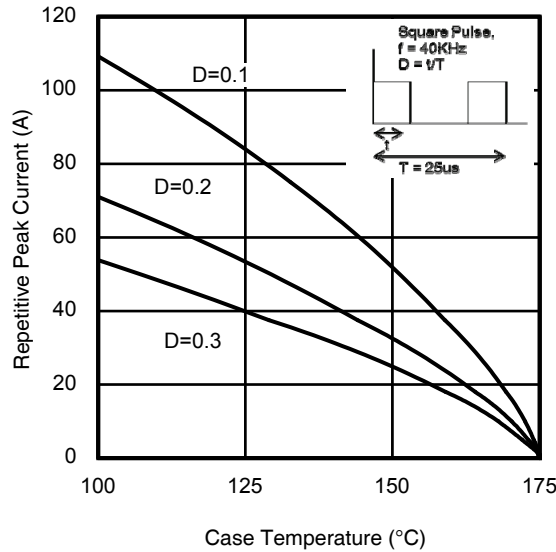

Fig. 26 - Typical Gate Charge vs. V_{GE}
- ① V_{CC} = 80% (V_{CES}), V_{GE} = 20V, L = 400μH, R_G = 10Ω.
- ② R_θ is measured at T_J of approximately 90°C.
- ③ Refer to AN-1086 for guidelines for measuring V_{(BR)CES} safely.
- ④ Pulse width limited by max. junction temperature.
- ⑤ Values influenced by parasitic L and C in measurement.
- ⑥ f_{sw} = 40KHz, refer to figure 26.